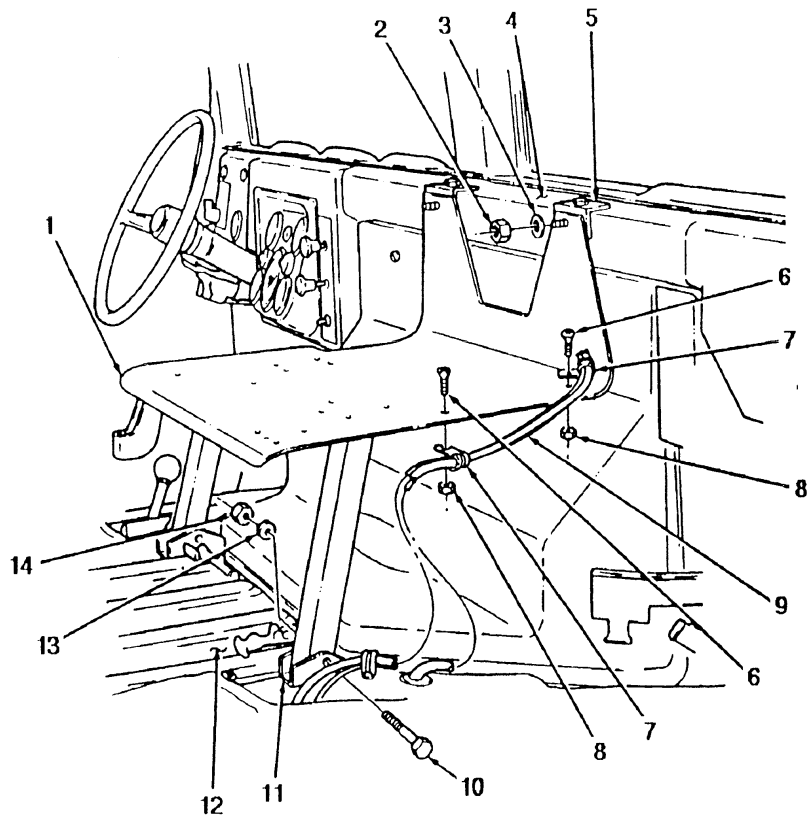

FIGURE 3-68
15. Position front radio rack (1) on tunnel floor (12) and secure to two radio rack mounting brackets (1) with two existing screws (10), washers (13), and NSN 5310-00-935-9021 nuts (14). (see figure 3-68)
16. Position front radio rack (1) to plenum panel (4) and secure to upper radio rack brackets (5) with two NSN 5310-01-102-3270 washers (3) and NSN 5310-01-186-8641 nuts (2).
17. Position radio cables (9) on front radio rack (1) and secure with two existing clamps (7), screws (6), and NSN 5310-00-814-0673 nuts (8).